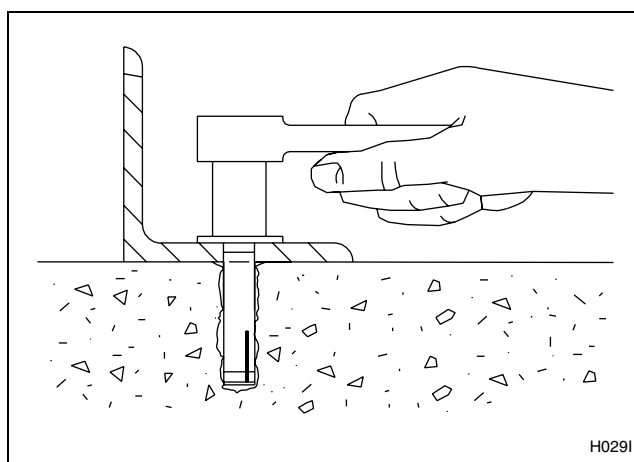

Figure 9
8. Secure the machine to the floor, using the bolts furnished with the anchors. Tighten the locknuts by even increments – one after the other – until all are tightened evenly and the machine is fastened securely to the floor. Refer to *Figure 9*.